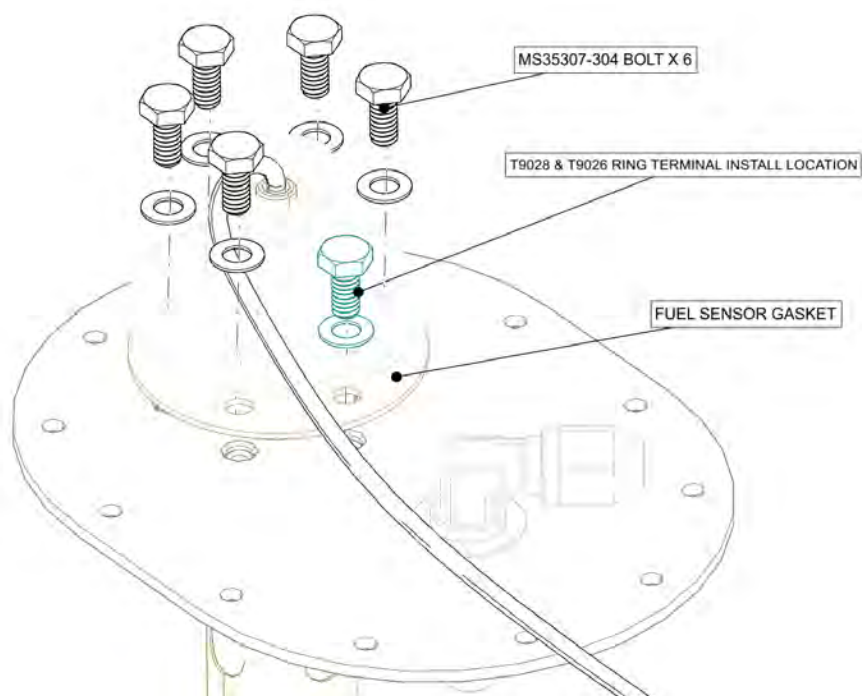
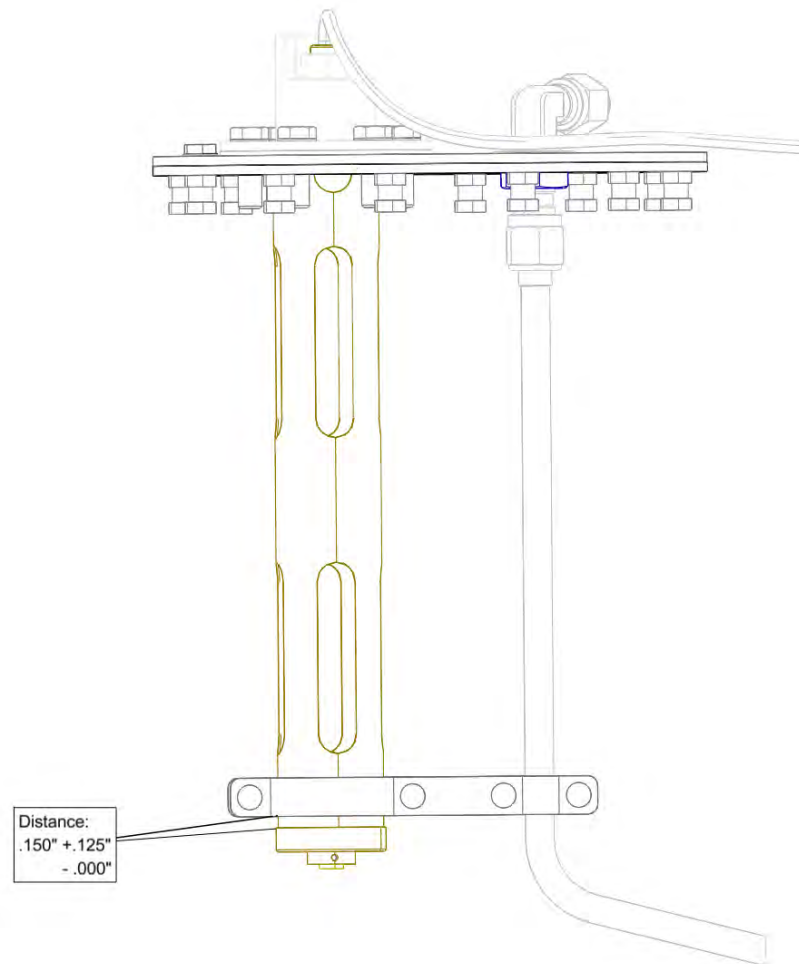

FIGURE 13-40
FIGURE 13-41
- b. Remove the 5 remaining bolts and washers on the Fuel Level Sensor. See Figure 13-40.
- b. Orient Fuel Level Sensor Probe as shown in Figure 13-41 and install into the Fuel Access Plate using a new FUEL SENSOR GASKET, THREADLOCKER, 5X bolts, and 5x washers previously removed. See Figure 13-40. Torque bolts in a star shaped pattern to 40-45 in-lbs.
- c. Position Clamp Bracket on the Fuel Level Sensor as shown in Figure 13-41.